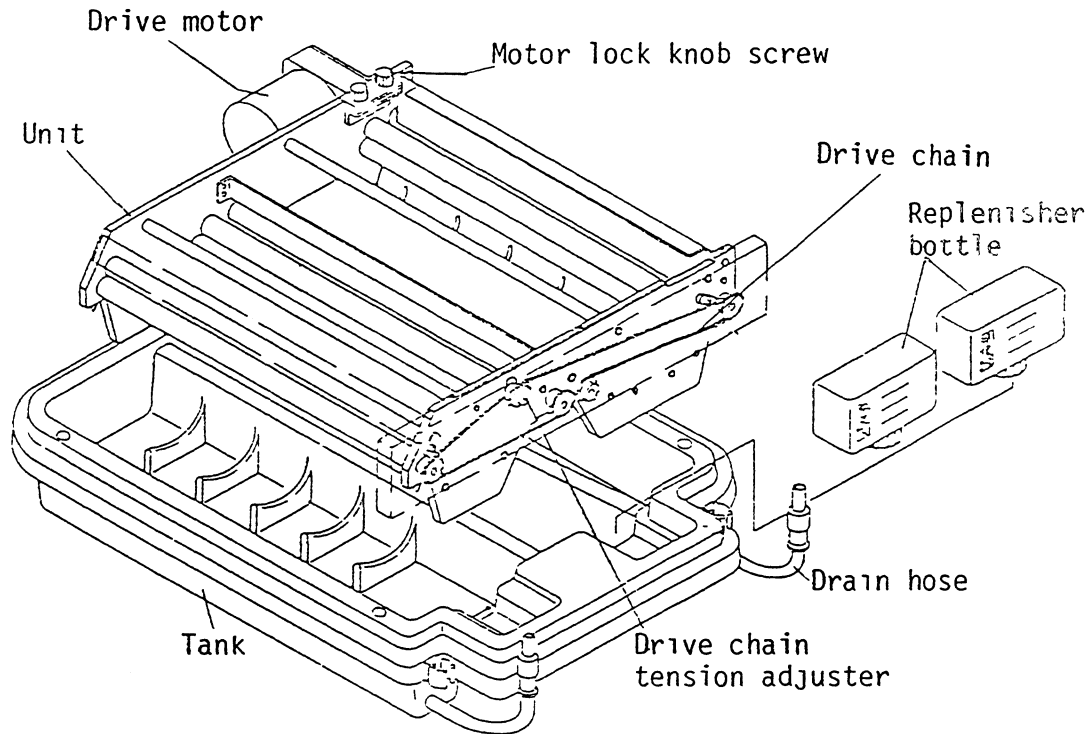

Fig. 16
- * The drive chain tension is adjusted through the sprocket mounting hole (Fig. 16).
- * If a master is scratched, check if the free rollers rotate smoothly (1) and if their surfaces are not dirty (2). If dirty, clean them.
- (1) remove the processor drive motor connector J3 and
- (2) remove two motor lock knob screws.